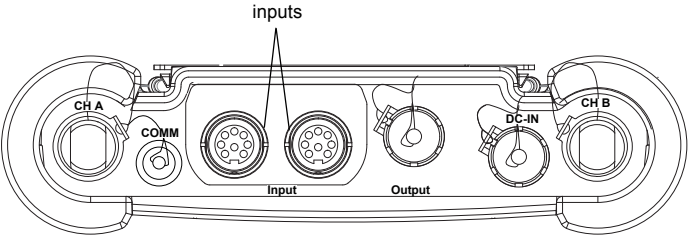

Fig. 7.16: Connections of the transmitter FLUXUS F608\*\*-A2
- Connect the power supply unit to the socket on the upper side of the transmitter (see Fig. 7.16).